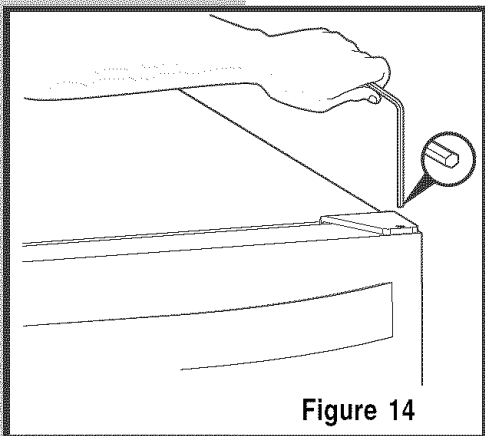

Figure 14
- 1 Remove top hinge screw pin (7/64" Allen wrench) from cabinet (see **Figure 14**). Remove door by tilting forward and lifting off bottom hinge pin.